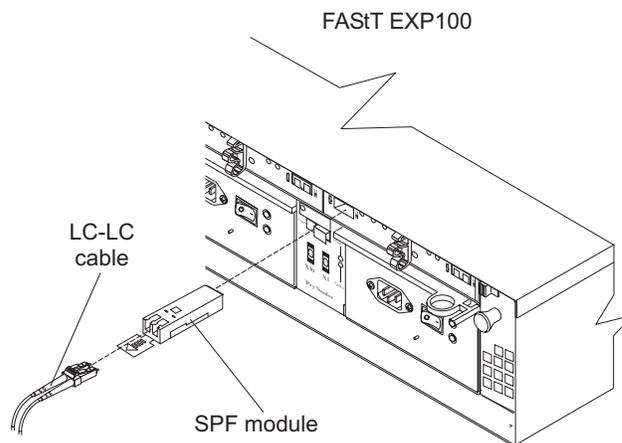

Figure 35. Installing an SFP module and connecting an LC-LC cable to the FASt EXP100
3. Install an SFP module in the SFP port on the back of the FASt EXP100; then, connect the other end of the LC-LC cable into the SFP module, as shown in Figure 35.